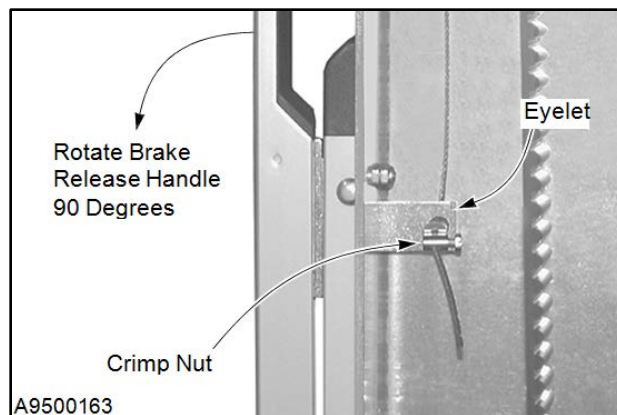

Figure 63
5. Install the new brake release cable, taking the same path as the old cable. Be sure to feed the cable through the cable jacket that runs between the side column and the motor gearbox. (See Figure 63.)
7. With the brake release handle fully extended out or at 90 degrees, feed the cable through the eyelet in the bottom of the handle. Slide a crimp nut over the end of the cable with the nut tight against eyelet. Then tighten down the setscrew with the majority of slack removed from the cable. (See Figure 63.)